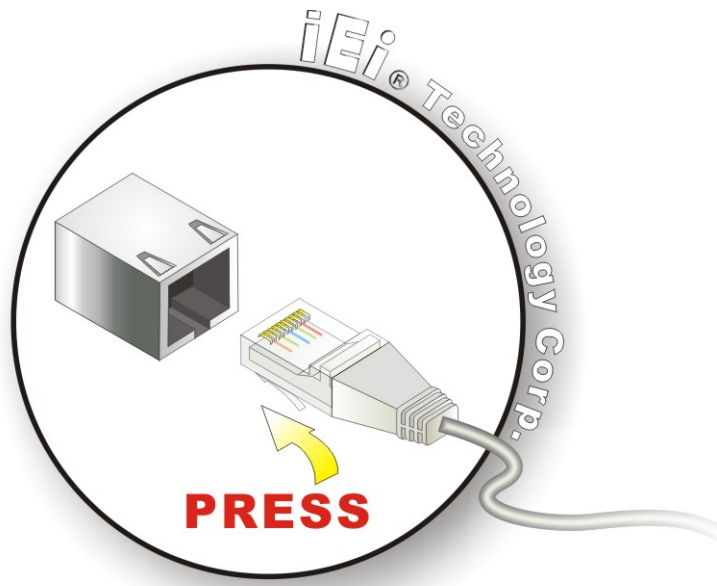

Figure 3-10: LAN Connection
Step 2: **Align the connectors.** Align the RJ-45 connector on the LAN cable with one of the RJ-45 connectors on the TANK-101B/BW. See **Figure 3-10**.